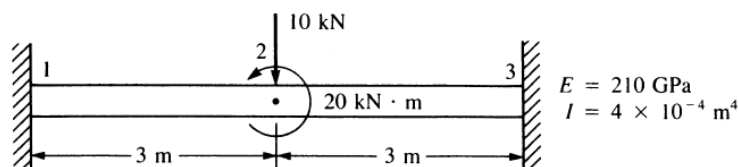

Figure 2
- 1B.** For the beam shown in Figure 2. Determine the nodal displacements and slopes. **(05)**